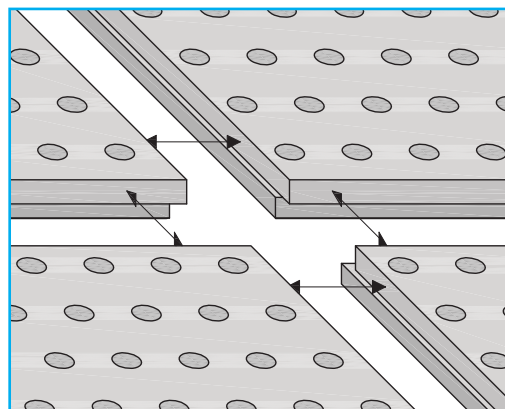

FIGURE 5 Linear Edges Alignment
- Place linear notch edge adjacent to linear lap edge along short and long edges. [Figure 5]